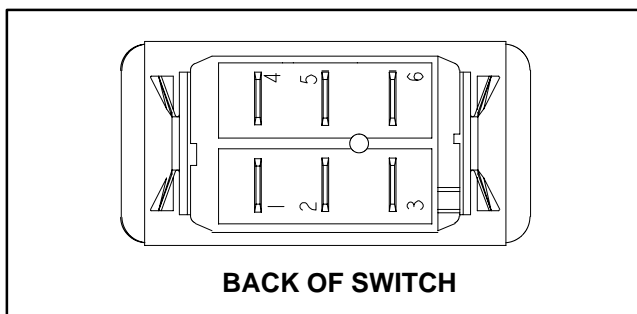

Figure 28
4. With the use of a multimeter (ohms setting), the switch functions may be tested to determine whether continuity exists between the various terminals for each switch position. The switch terminals are marked as shown in Figure 28. The circuitry of the switch is shown in the chart below. Verify continuity between switch terminals. Replace switch if testing identifies a faulty switch.